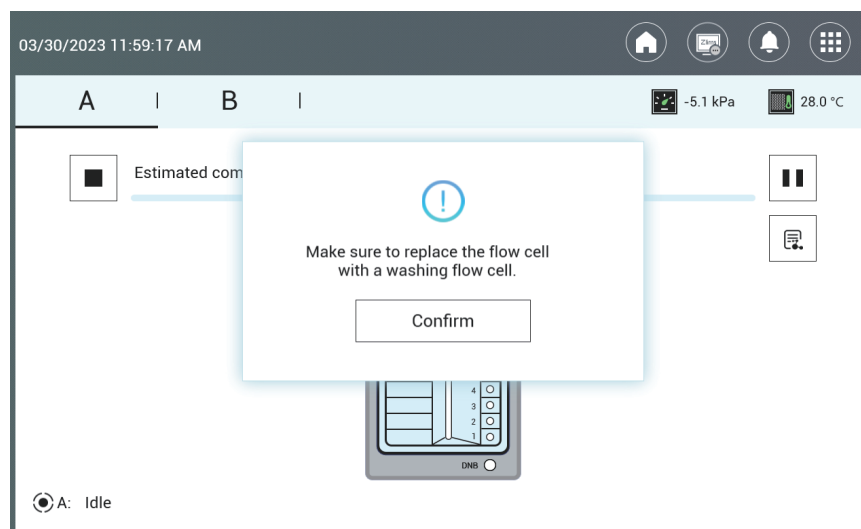

Figure 13 DL-T7RS flow cell loading complete status interface
16. The process takes approximately 2 hr. When flow cell loading is complete, the screen appears as shown in Figure 13.
18. When loading is complete, install the washing flow cell onto the flow cell stage and press the flow cell attachment button. Close the flow cell compartment door. Select **Confirm** as shown in Figure 13.